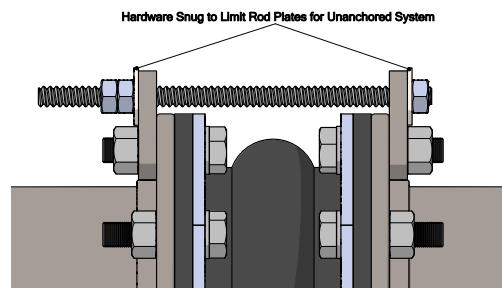

Figure 21: No Limit Rod Gap for Unanchored System
- 5.1.1 Follow pressure test instructions set by site engineer. Lock down limit rod hardware before pressure test as shown in Figure 21. Pressure test should not exceed 1.5 times operating pressure for 10 minutes. Refer to specified drawing for pressure rating and details.